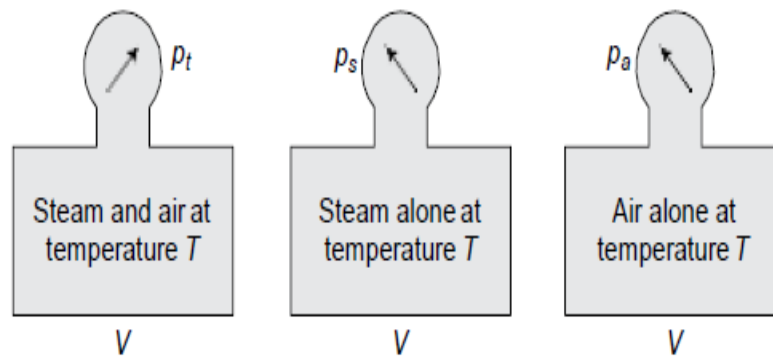

Fig. 2.37 Dalton's Law of Partial Pressure
The partial pressure of each constituent of the mixture is the pressure exerted by the constituent taken separately in the same volume (V) of the vessel as that of mixture and at the same temperature. This is explained by taking the following example as shown in Figure 2.37.